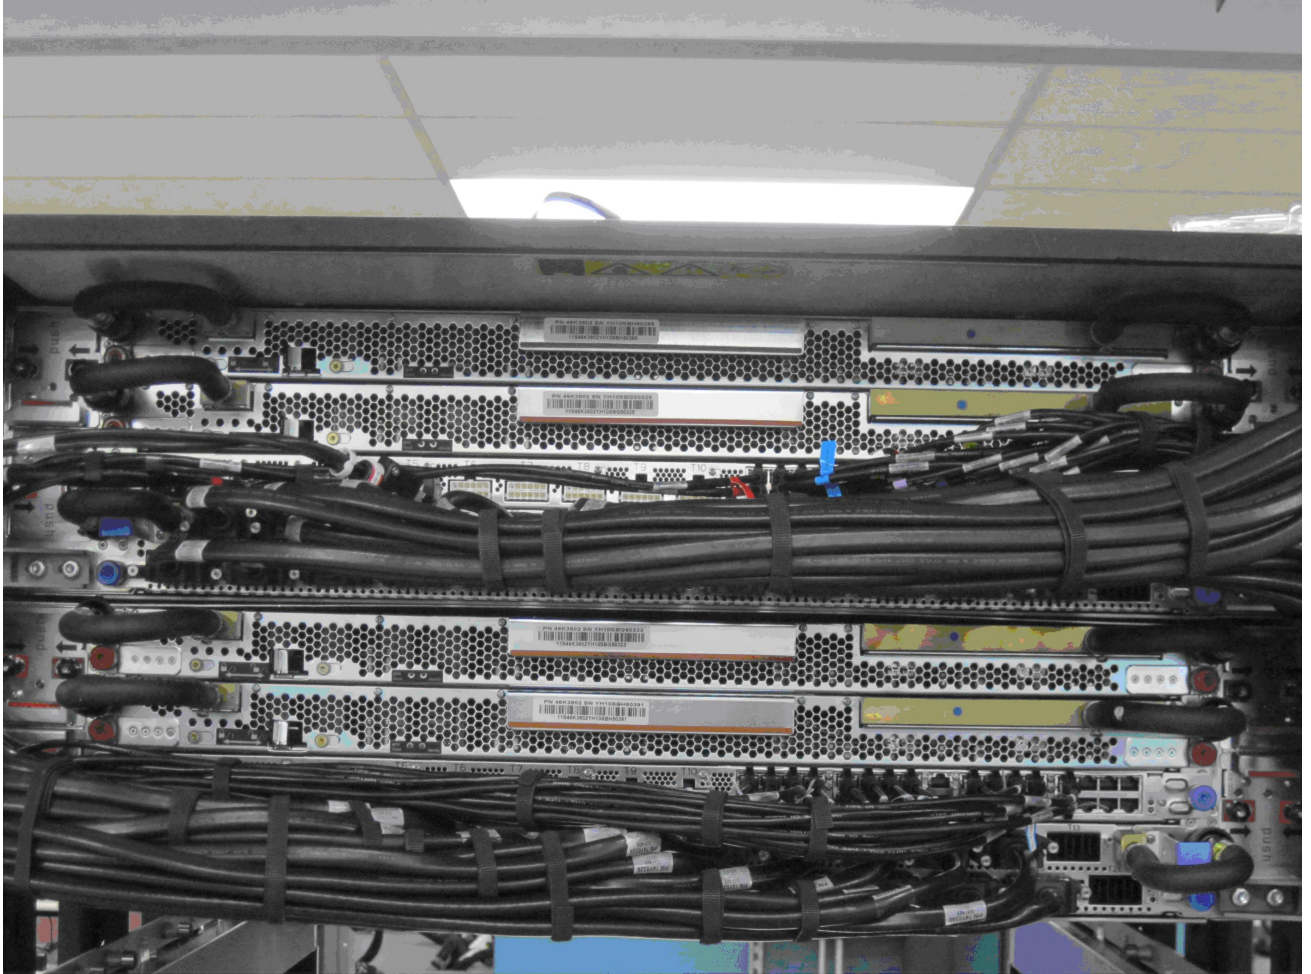

**Figure 52 BPE Mounting Bracket Removal**
- 106.** The front-left BPE mounting bracket must now be installed. Using ratchet 6428140, extension 46K2707, and 5mm hex bit 74Y0986, tighten the captive screws on the BPE mounting bracket (see Figure 52 below).